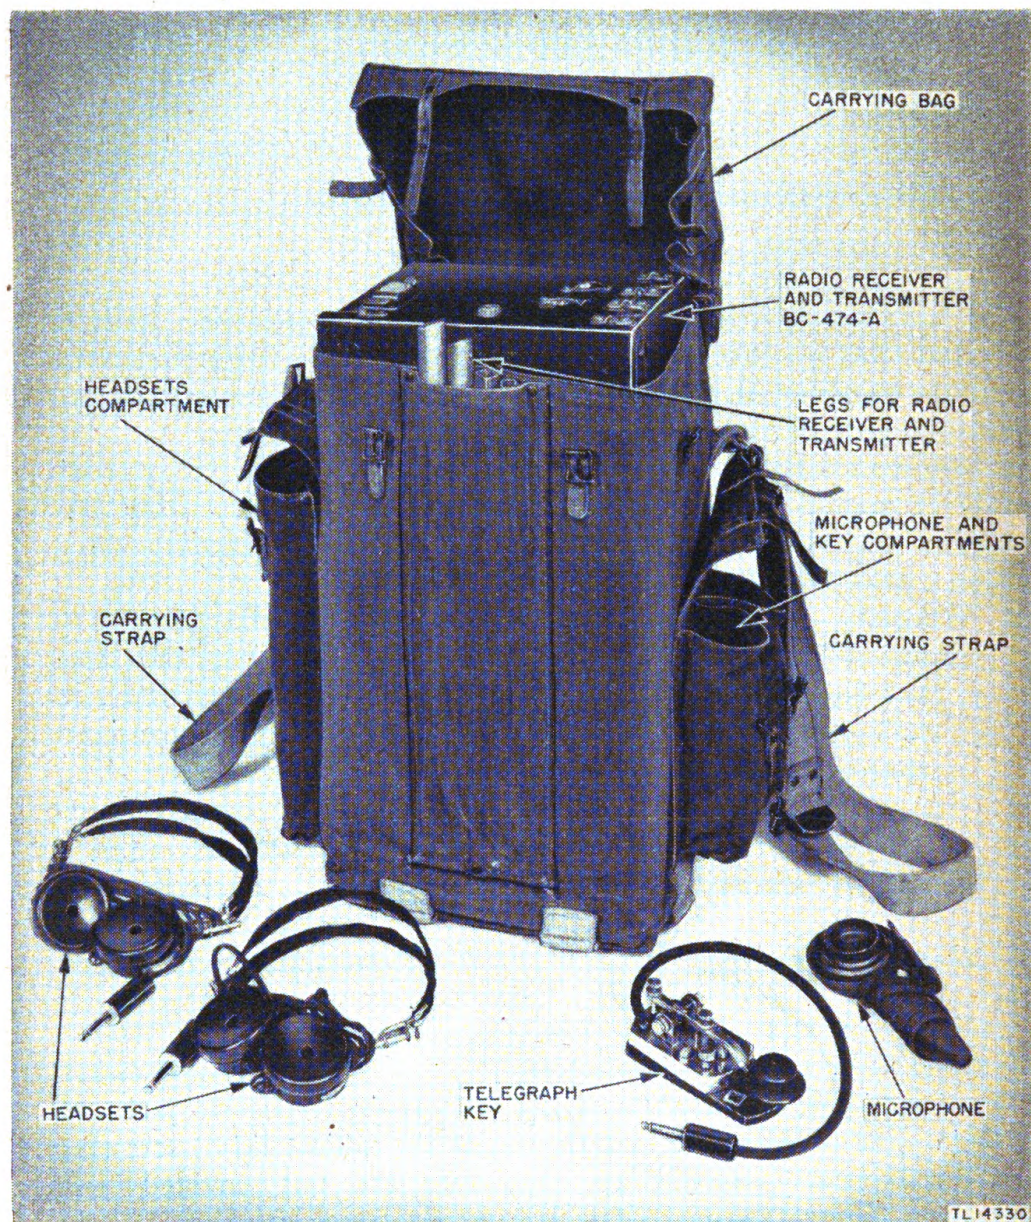

FIGURE 2.—Radio receiver and transmitter BC-474-A and component parts.
1. General.—Radio set SCR-288 (fig. 1) * * * approximately 71 pounds. Three water-repellant carrying cases are provided into which the equipment may be packed for transportation or storage. (See figs. 2 and 3.)
Radio receiver and transmitter BC-474-A with bag, four legs, two headsets, key, microphone, filter FL-10, and one battery pack (filter and battery pack in their compartments) (fig. 2)-----